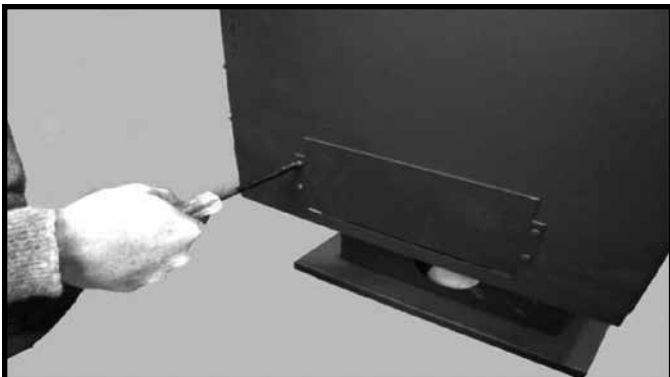

Figure 23: Remove the cover plate.
1. Remove the two screws and cover plate from the rear shield on the stove (Figure 23).